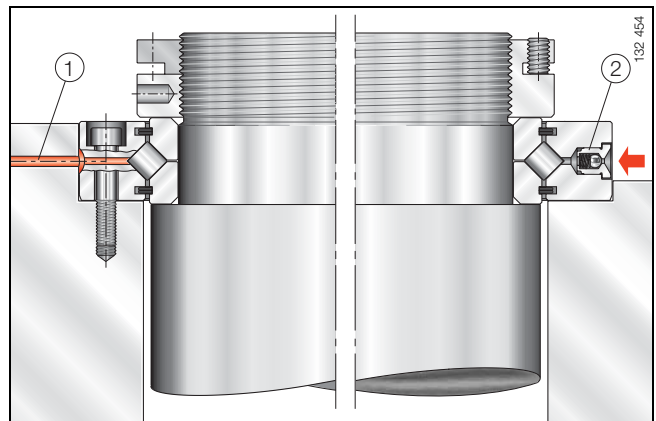

Figure 6 · Radial and axial location of bearing rings – lubricant duct in the adjacent construction
Crossed roller bearings XV are screw mounted directly on the housing through the outer ring and centred if necessary (Figure 6).
The inner ring is retained radially by an appropriate fit, abutted axially on a shaft shoulder and located by means of a locknut (Figure 6).
If the bearings are to be lubricated via a lubrication duct ① in the adjacent construction (Figure 6), this must be taken into consideration in the design of the housing.